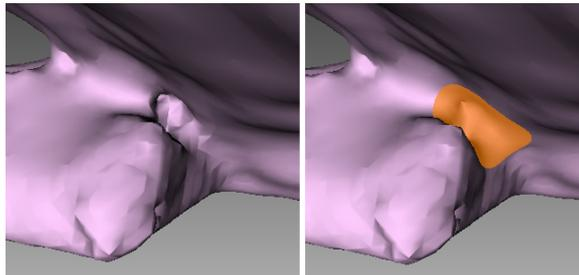

Figure 82: Before smoothing (left) and smoothing out a poorly captured area (right).
6. Hold **LMB** and paint the surface region in order to smooth it. The tool will smooth the affected areas (see Figure 82, right).